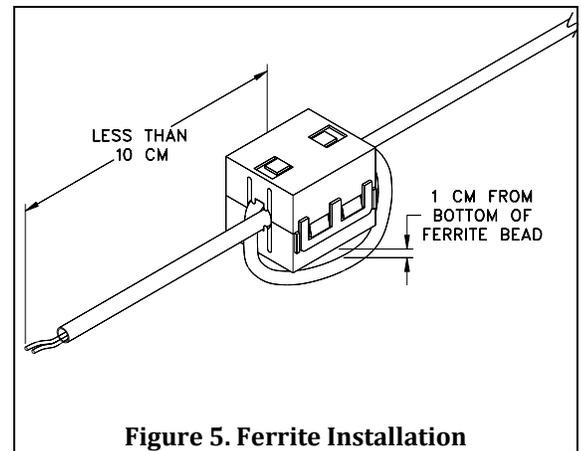

Figure 5. Ferrite Installation
- The ferrite bead should be no more than 10 cm away from the Q-Stat monitor end of the communications wire (Figure 5).